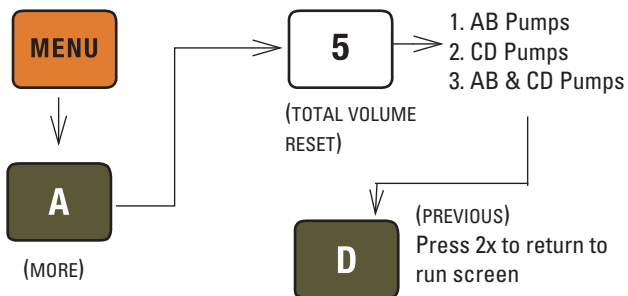

Figure B-4 Keystrokes to reset volume totalizer
3. Reset total volume (see Figure B-4).
5. Reset total volume (see Figure B-4).